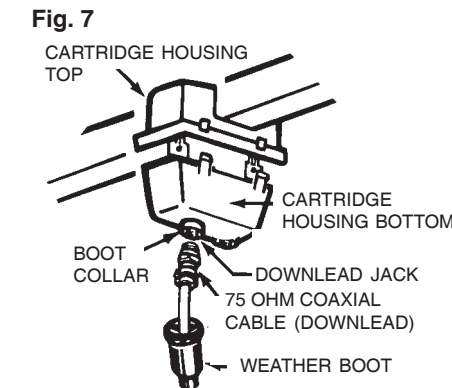

Fig. 7
STEP 4. Attach cartridge housing bottom to cartridge housing top already attached to antenna by aligning tabs and snapping into place. See Figure 7.